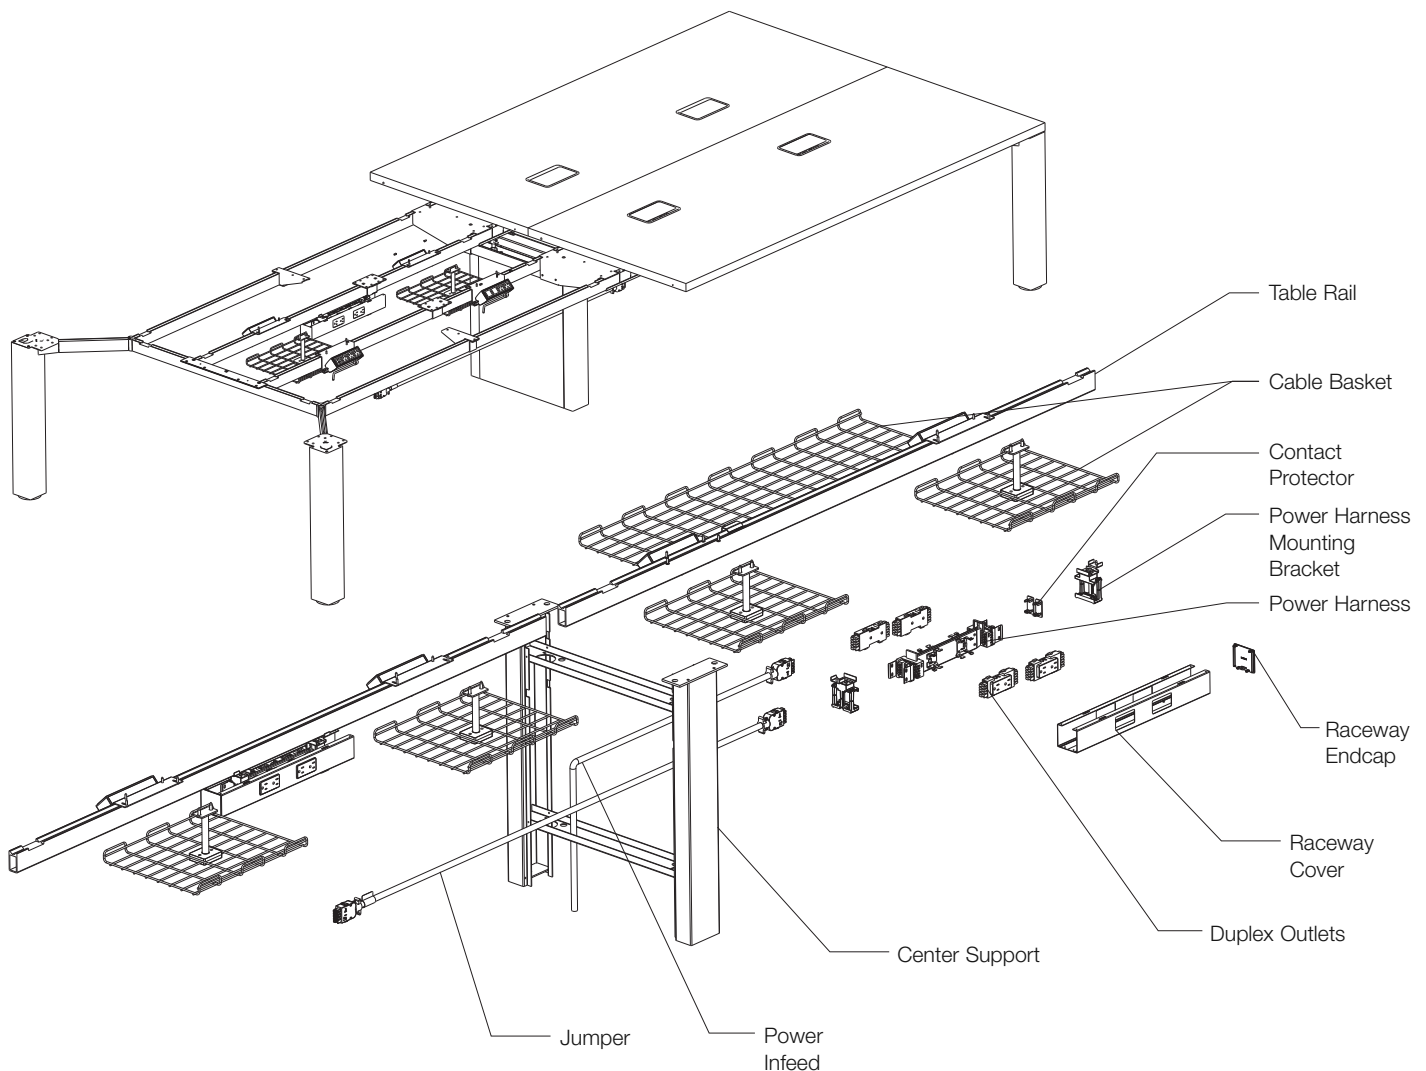

Figure 1. Reff Profiles Meeting Table with Electrical Components
- 1) The power harness infeed has a modular connector with a six foot pigtail to connect from a junction box in the floor or wall to a power harness. See Figure 1.